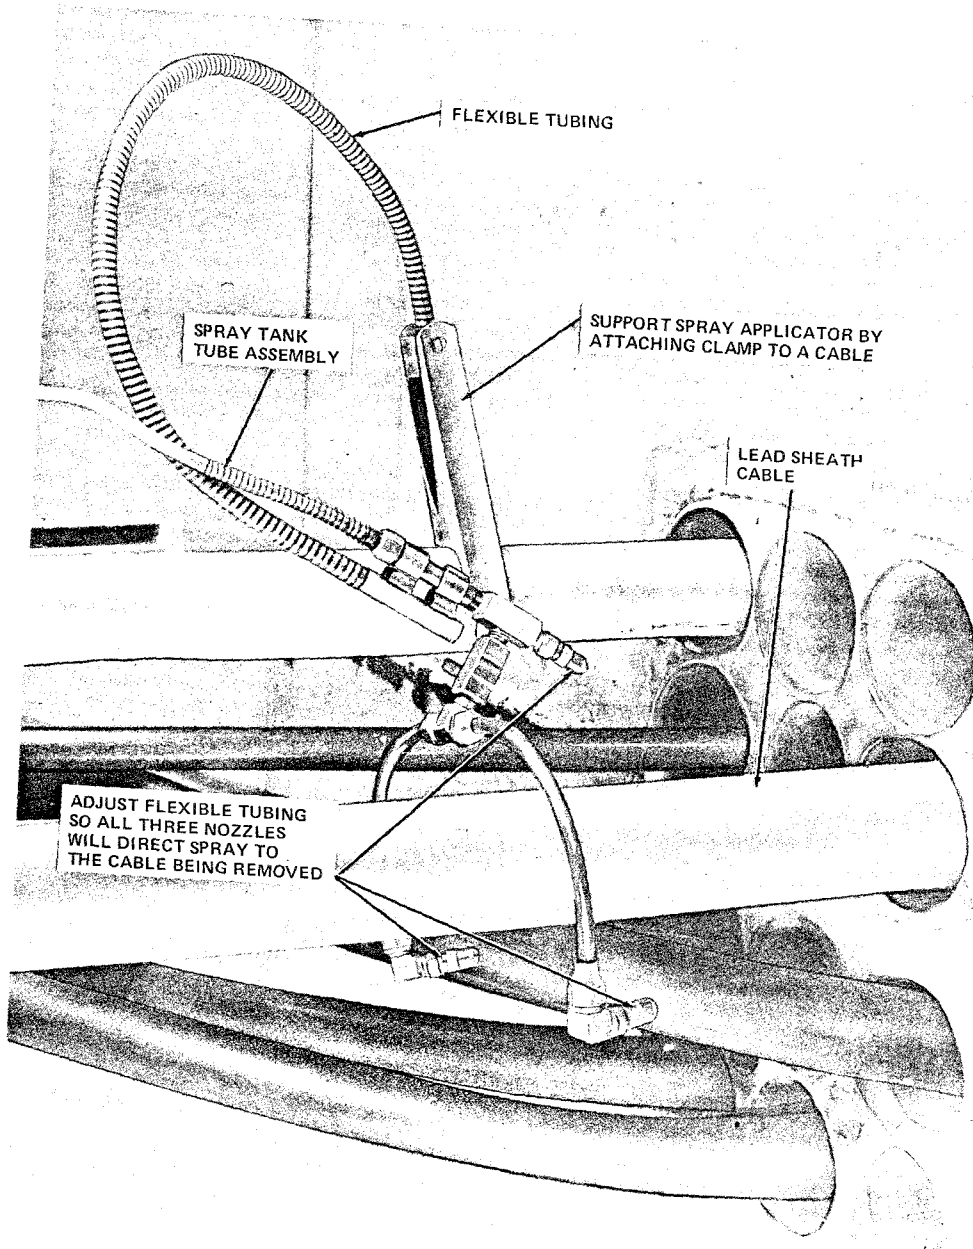

Fig. 8—Spray Applicator Setup
2.10 Before starting the pull, spray the sheaves, quadrant block, and other moving parts in contact with the cable. Set up the spray applicator at the duct face so the cable is sprayed as it leaves the duct as shown in Fig. 8. If the cable is not completely covered with the wetting agent as it is pulled from the manhole, stop the pull and make necessary adjustments to the spray applicator.